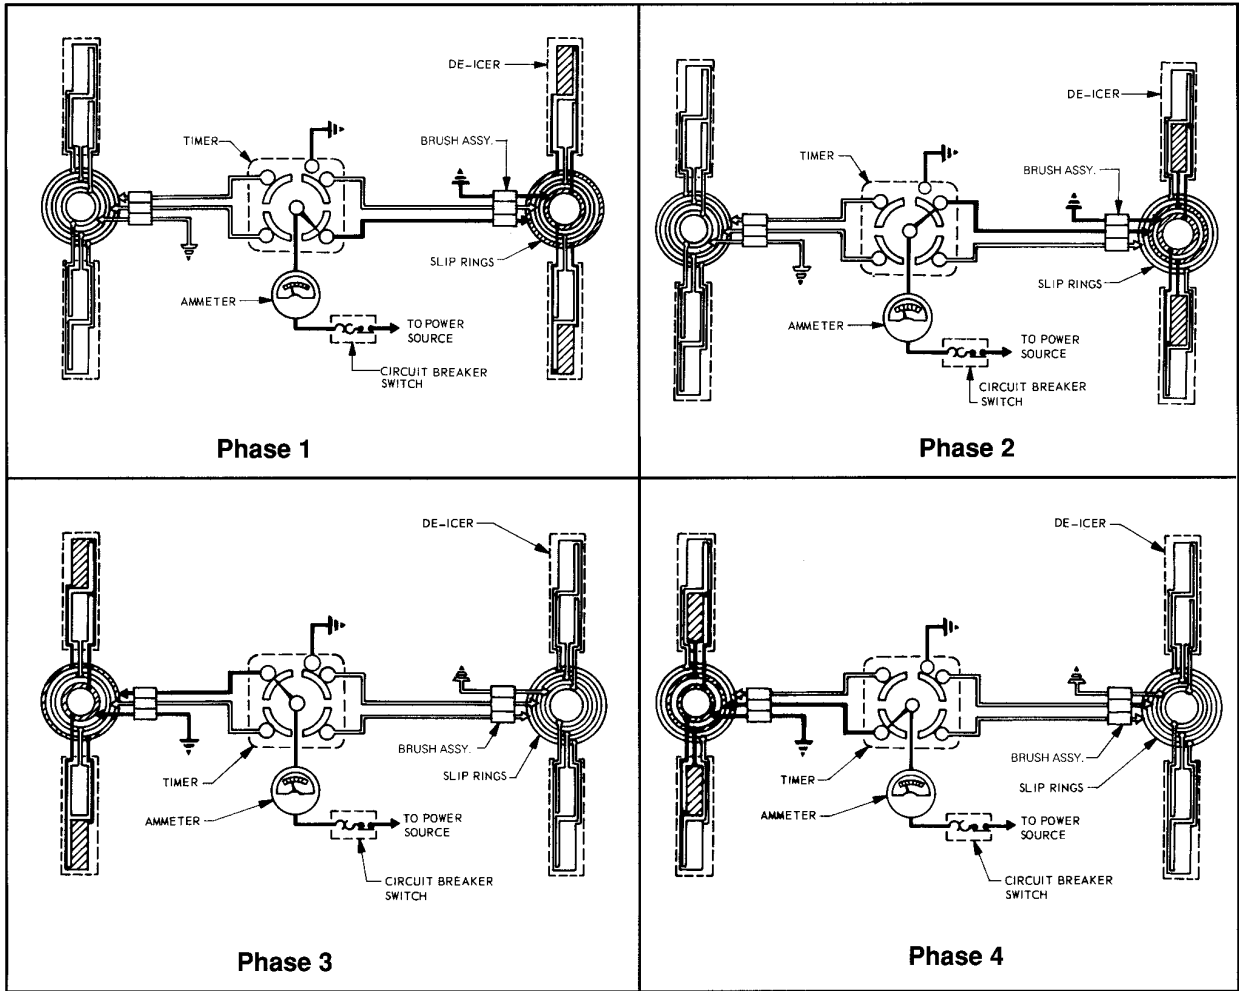

Figure 2 – Dual Element Twin Engine De-Icing Cycle
- b. Dual element de-icer aircraft heating sequence, twin engine aircraft: **(Figure 2, page 3)**